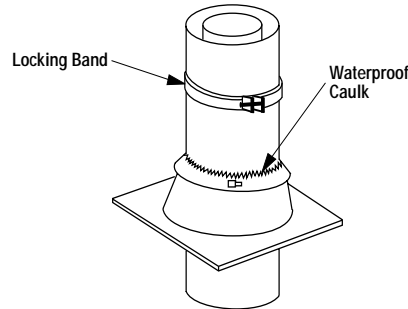

Figure 38
Step 8. The standard Security Chimneys FTF8 roof flashing assembly includes a storm collar. Slide storm collar over outer chimney, align with top surface of flashing, insert storm tab in slot, pull tight and bend tab back over slot. Seal storm collar to outer chimney with roof caulking or mastic around entire circumference of pipe. Also add extra roof caulking where storm collar meets flashing and to the tab/slot area to seal completely against water penetration (Figure 38). Check all joints very carefully to ensure no water intrusion can take place.
Step 9. Security Chimneys locking band, Model FLB, may be required if the chimney extends too high above the roof flashing. As a general rule, if the chimney extends more than 6' (1.8 m) above the roof/flashing, the use of locking bands is advisable to strengthen the chimney joints. Align the locking band at the pipe joint. Locking bands wrap around pipe joints equally covering the joints of both pipe sections. Use nut provided and TIGHTEN snugly. Do not over tighten as this might damage chimney section (Figure 38).